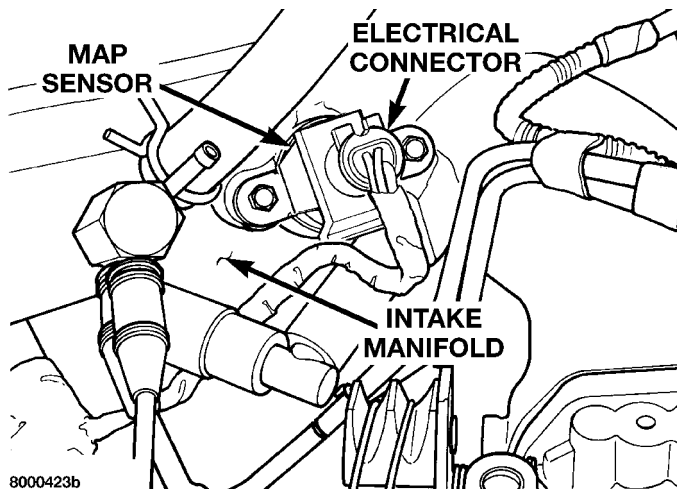

Fig. 9 Manifold Absolute Pressure Sensor
- (1) Disconnect electrical connector from MAP sensor.
- (2) Remove 2 screws holding sensor to intake manifold (Fig. 9).
- (3) Remove sensor from manifold.